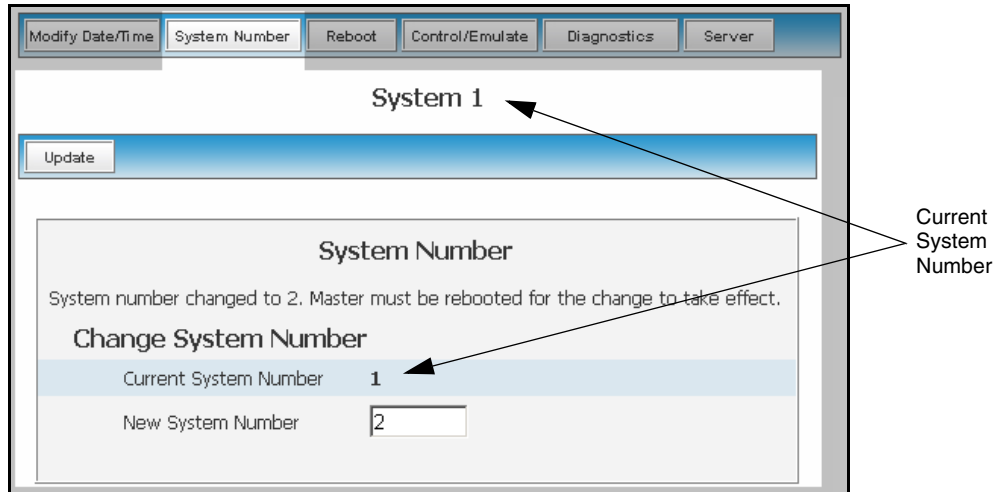

FIG. 59 Change System Number dialog
3. Click the **System Number** button to open the Change System Number dialog (FIG. 59). This dialog shows the current system number (read-only) on the target Master.